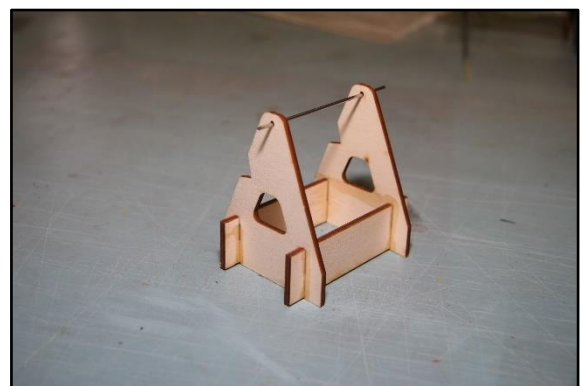

Figure 33: Center of Gravity Jig
11. Make the bend as outlined above. (See Fig. 33)